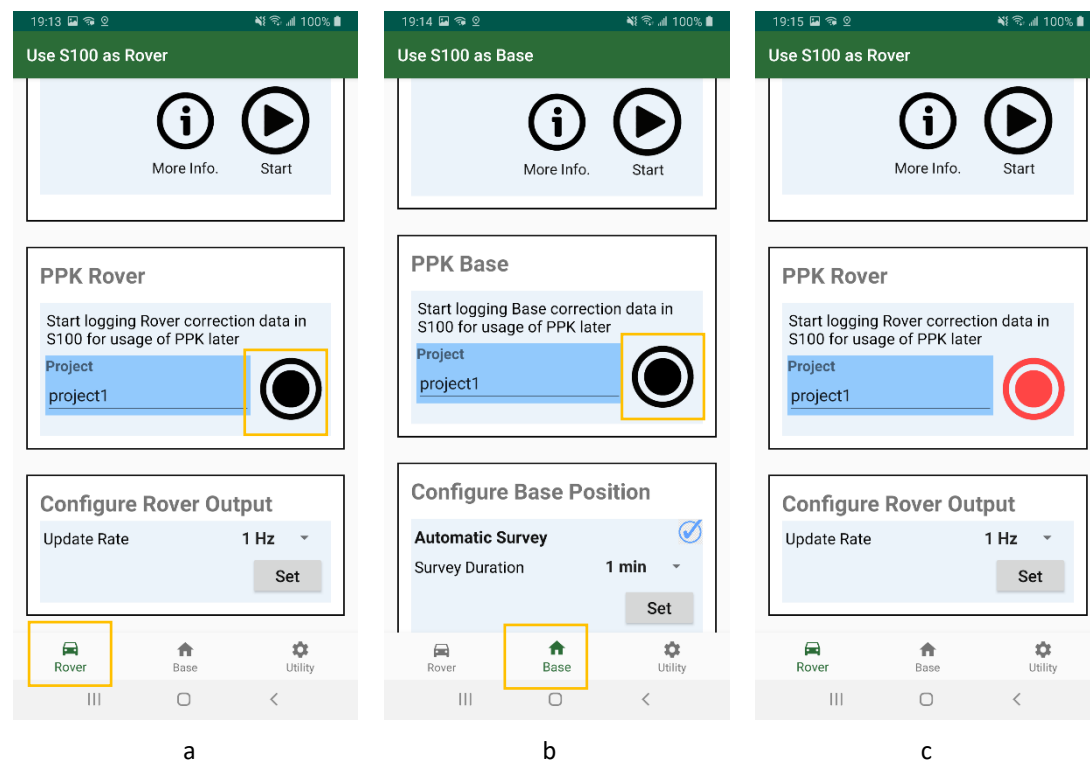

Figure 5-4
1. In rover or base tab, click the black REC button to start S100 to record raw measurement data in its flash memory. See Figure 5-4 a, b.
2. When S100 start to record raw measurement data, the REC button becomes red and flicks. See Figure 5-4 c.